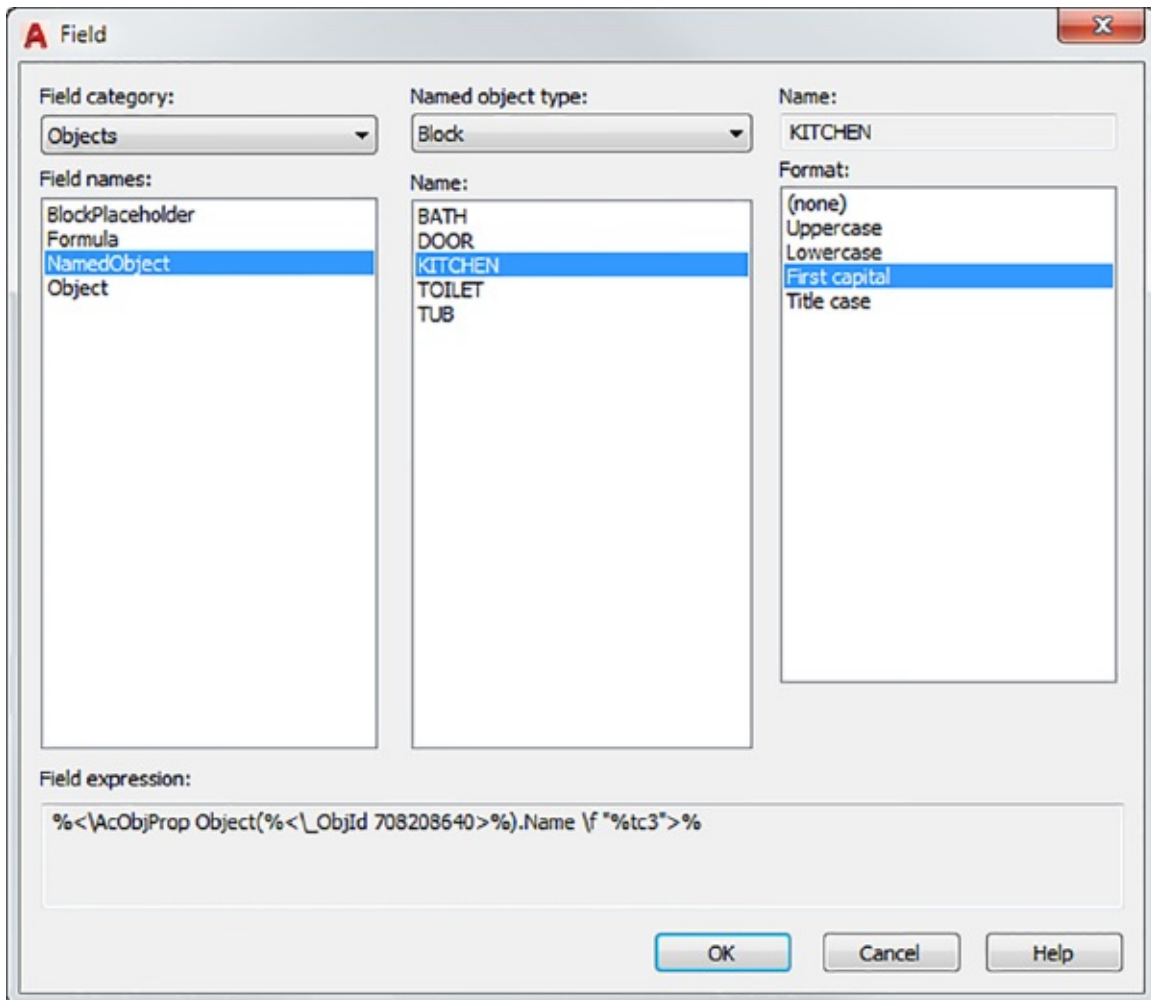

FIGURE 10.1 Choose the field you want to insert.
3. Right-click the highlighted Kitchen text, and then choose Insert Field to open the Field dialog box (see Figure 10.1). A list to the left shows the types of fields available. Don’t worry if your dialog box looks different from Figure 10.1. The appearance will change in the following steps.